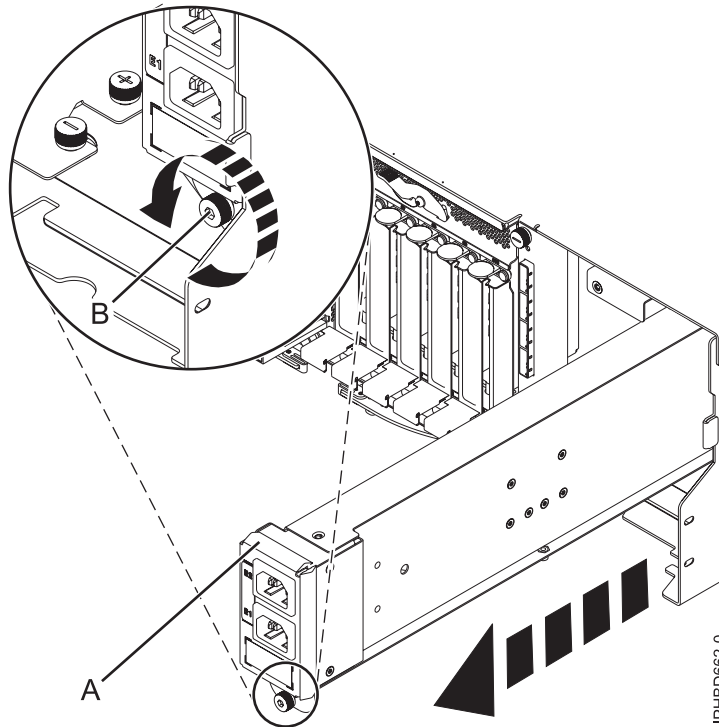

Figure 29. Removing an input power distribution assembly
8. Loosen the thumbscrew **(B)** on the input power distribution assembly. Pull out the assembly from the expansion unit, as shown in Figure 29 on page 28.